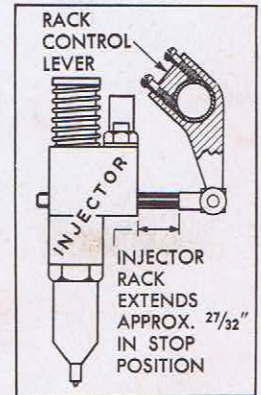

FIG. 3—RACK STOP POSITION.
2. Hold governor control lever in the "stop" position (governor control link connected). Each injector rack must extend approximately $\frac{3}{16}$ " from injector body. (See Fig. 3.) This measurement assures engine shut down.